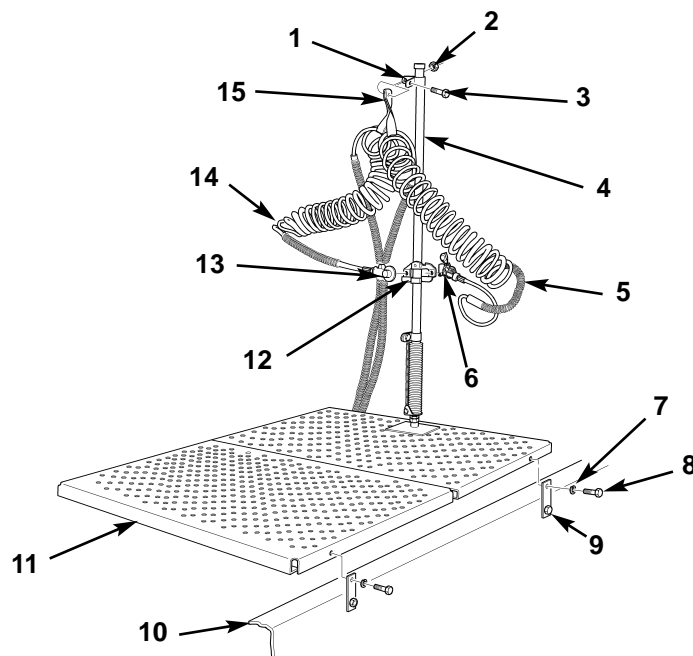

Figure 7. Installing Service Deck and Connecting Air Hoses.
9. Position service deck assembly (figure 7, item 11) on tractor frame (figure 7, item 10), and install four lockwashers (figure 7, item 7) and bolts (figure 7, item 8) on four tabs (figure 7, item 9) and service deck assembly (figure 7, item 11).
10. Loop strap (figure 7, item 15) around emergency air pressure hose (figure 7, item 14) and service air pressure hose (figure 7, item 5). Install strap (figure 7, item 15) on air hose tender (figure 7, item 4) with clamp (figure 7, item 1), screw (figure 7, item 3), and nut (figure 7, item 2).
11. Connect emergency air pressure coupling (figure 7, item 13) and service air pressure coupling (figure 7, item 6) to storage brackets (figure 7, item 12) on air hose tender (figure 7, item 4).